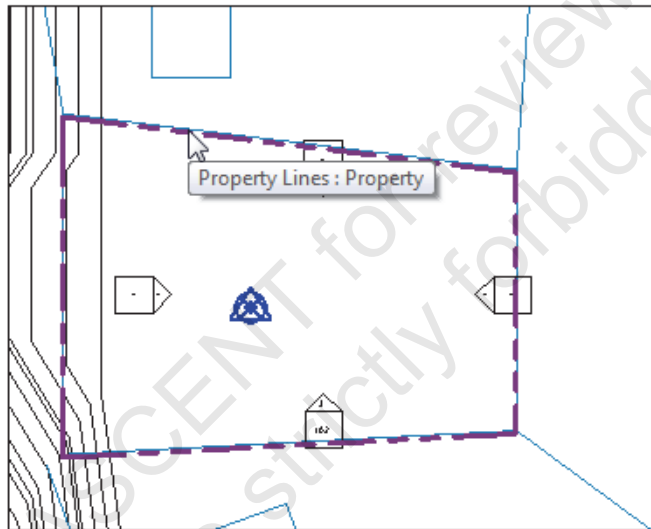

Figure 1–96
5. Click in the **New Site** view and select the Property Line, as shown in Figure 1–96.